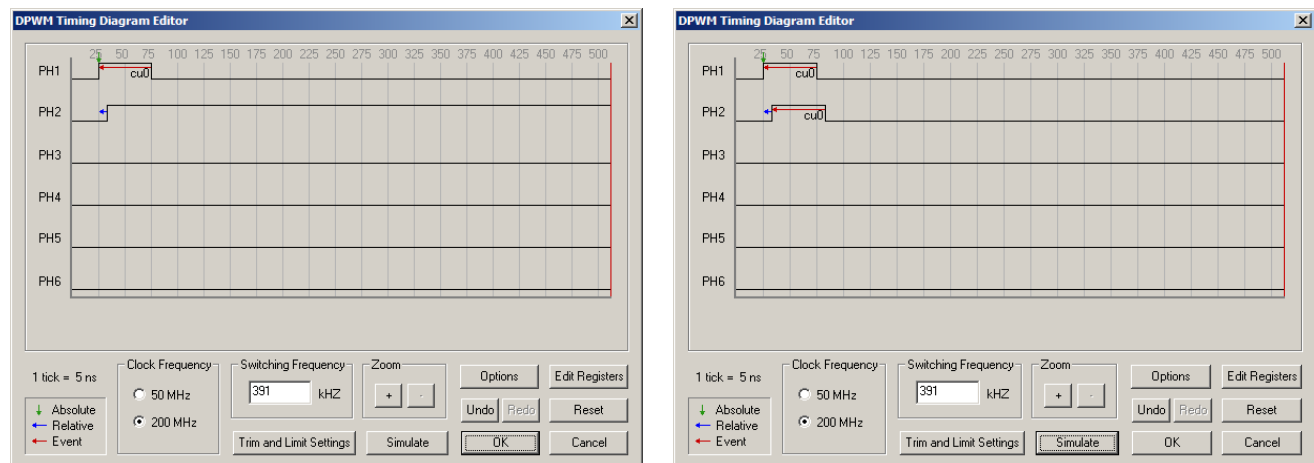

Figure 10. DPWM Timing Diagram Editor - Phase 2
1. Create the timing for Phase 2. For Phase 2, the goal is to create a rising edge at 40 ns (8 time ticks) after the rising edge of Phase 1. To create this edge, hold the mouse above the Phase 2 zero timing line (default) at time tick 33. Then, either double click with the left mouse button or right click at that point and select **Relative Edge**. Next, select the edge to reference by clicking on edge 1 in Phase 1. A relative edge at time tick 40 ns later will be created (see Figure 10).
2. To finish the timing for Phase 2, use **(Cu0)** to modulate Phase 2. To create this edge, hold the mouse above the Phase 2 timing line at time tick 83. Either double click or right click at that point and select **Event C(0) Edge**. Next, select the reference edge by clicking on edge 1 in Phase 2. A relative falling (Cu0) edge will be created at time tick 83 since U(n) defaults to 50 (see Figure 10)